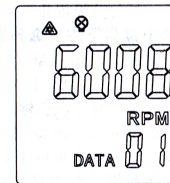

Fig.6
If you want to check the record data, First press ⑥ to stop measuring, then press ⑤ and the sign "DATA" will display. On the lower right of LCD is the current count of the record data (from 1~50). (Fig. 6). You can just
⑤